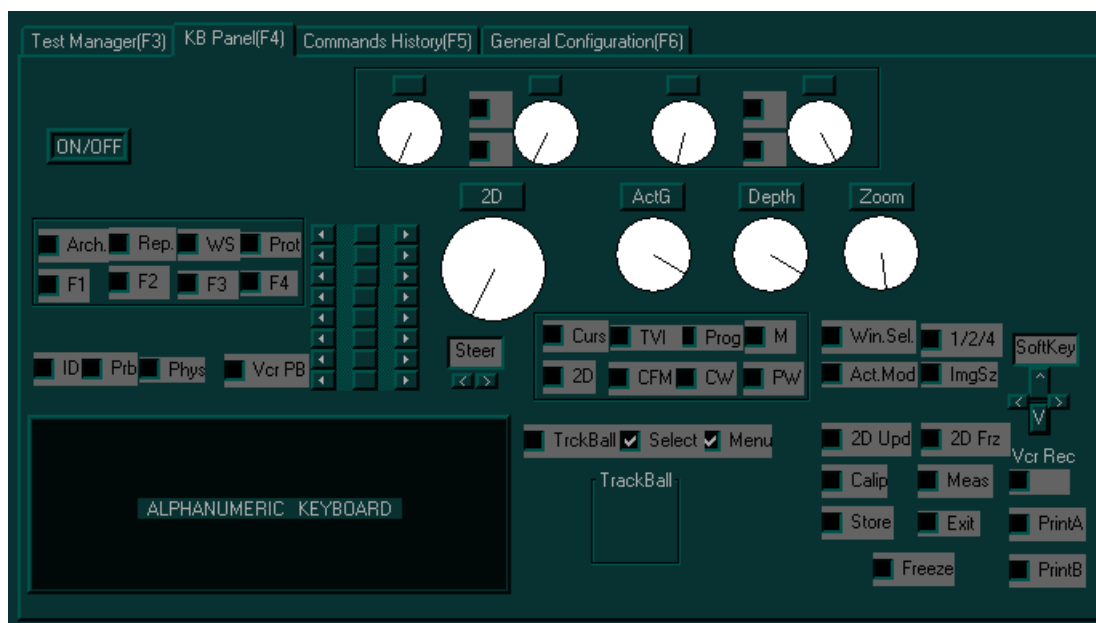

Figure 7-50 KB Panel Tab - Extended Keyboard Test Window
- 4) Trackball to the **KB Panel** tab and press **Select**. The **KB Panel** tab is displayed, as shown in Figure 7-50 "KB Panel Tab - Extended Keyboard Test Window" on page 7-77.